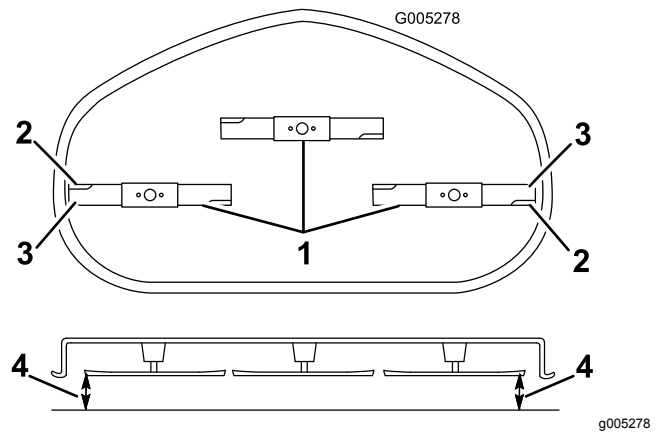

Figure 50
4. Carefully rotate the blade(s) so that they are all side to side (Figure 50).
5. Measure between the outside cutting edges and the flat surface (Figure 50). If both measurements are not within 5 mm (3/16 inch), an adjustment is required; continue with this procedure.